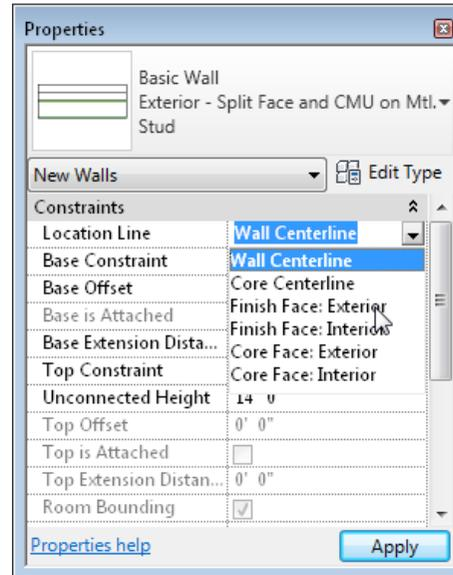

Figure 3-42 Selecting the **Finish Face : Exterior** option for the **Location Line** parameter
2. Click in the value field of the **Location Line** parameter and select the **Finish Face: Exterior** option from the drop-down list displayed, as shown in Figure 3-42. Choose the **Apply** button to accept the specified values.